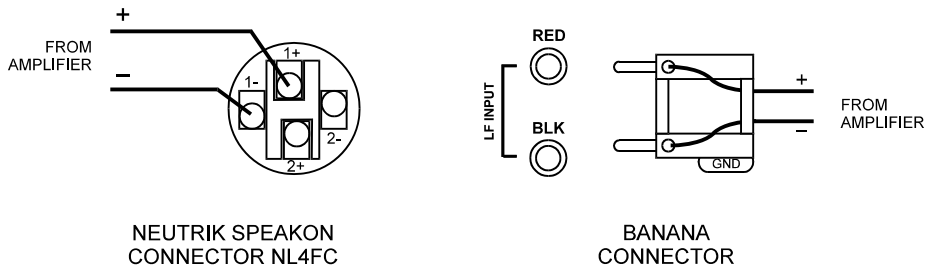

FIGURE 6: WIRING FOR SBS SUBWOOFERS
10.5.3 SBS SUBWOOFER (SEE FIGURE 6)
Make connections to the SBS subwoofer as shown in FIGURE 6 observing proper polarity.